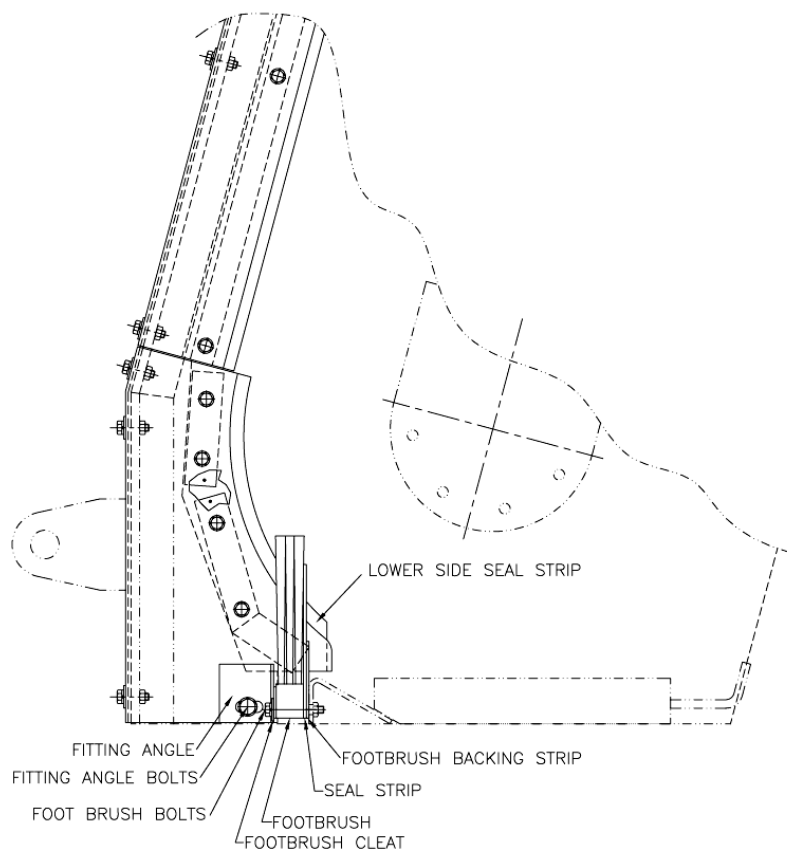

Figure 4-10. Foot Brush and Bottom Seal Diagram
3. Loosen the securing bolts from the mounting angle on the frame of the base of the Aqua-Screen®. See figure 4-10.